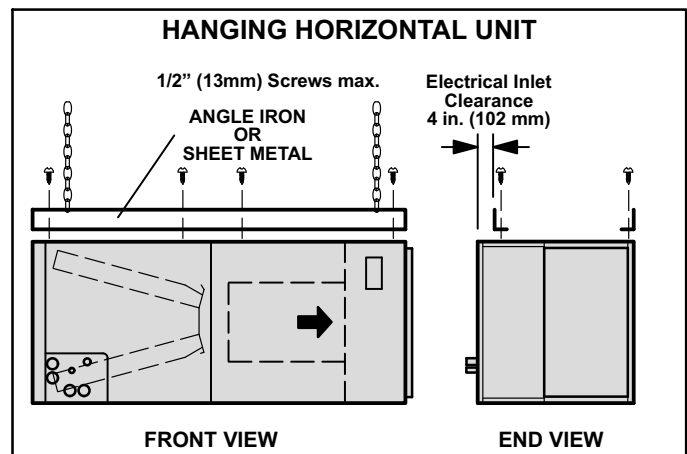

FIGURE 25
- 4- If hanging the unit, it must be supported along the entire length of the cabinet. If using chain or strap, use a piece of angle iron or sheet metal attached to the unit (either above or below) so that the full length of the cabinet is supported. Use securing screws no longer than 1/2" (13mm) to avoid damage to coil or filter. See figure 25. Connect return and supply air plenums as required using sheet metal screws.
- 13- If hanging the unit, it must be supported along the entire length of the cabinet. If using chain or strap, use a piece of angle iron or sheet metal attached to the unit (either above or below) so that the full length of the cabinet is supported. Use securing screws no longer than 1/2" (13mm) to avoid damage to coil or filter. See figure 25. Connect return and supply air plenums as required using sheet metal screws.